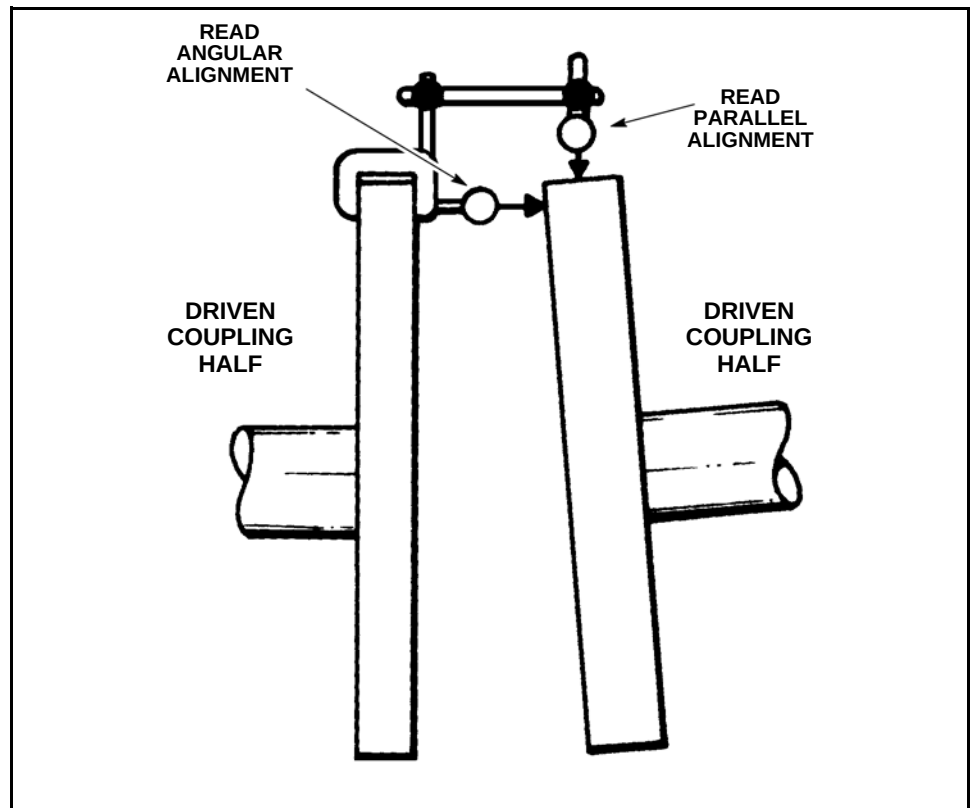

Figure 2-43 Measuring For Parallel Alignment
1. Set up a dial indicator to read parallel alignment. If available, set up a second dial indicator to read angular alignment. This will allow you to rotate the shafts only one time to get both readings (see Figure 2-43).